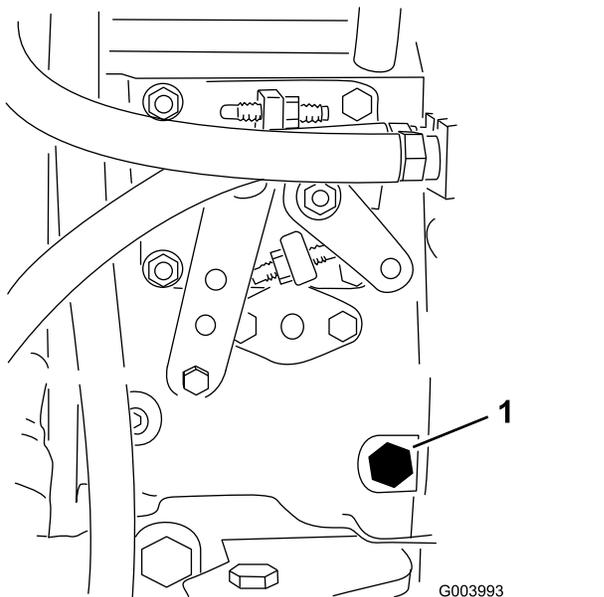

Figure 64
5. Open the air bleed screw on the fuel injection pump (Figure 64) with a 12 mm wrench.